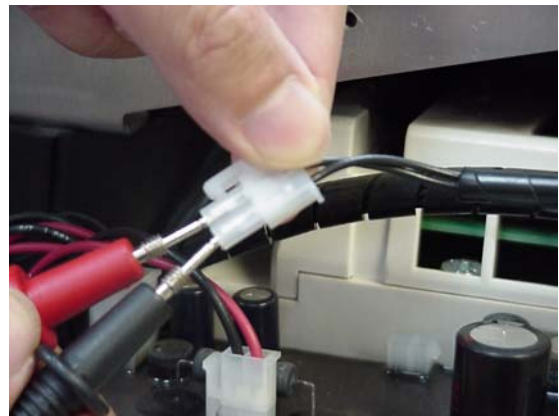

Figure 4-51 DC-DC Converter AC Input Voltage Measurement
6. Insert the meter probes into the AC cable terminal (polarity unimportant), as shown in Figure 4-51. The meter should read 15VAC±10%.